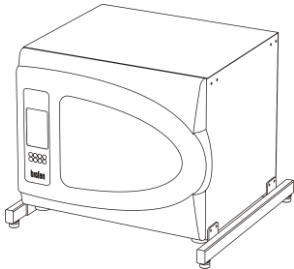

Figure 4. Stacking three units, base level
- 5.5.1. Base unit (figure 4):